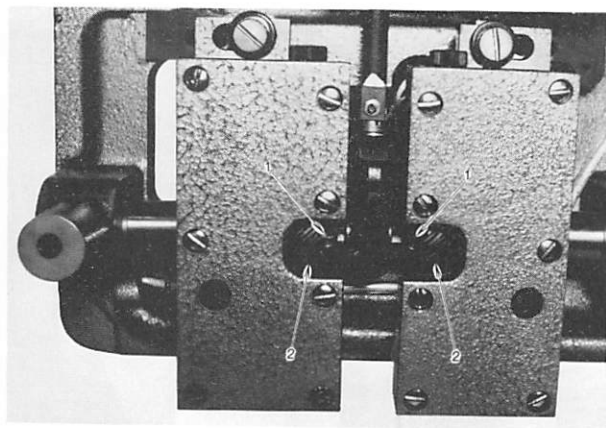

Fig. 19A
Loosen the two set screws (1, Fig. 19A), set the position of the large gear (2, Fig. 19A) to the center of the small gear (5, Fig. 3) and tighten the two set screws securely.
Loosen the two set screws (1)—Fig. 19A—, move the large drive gear (2) to right or left and set the proper timing. Then, tighten the screws securely.